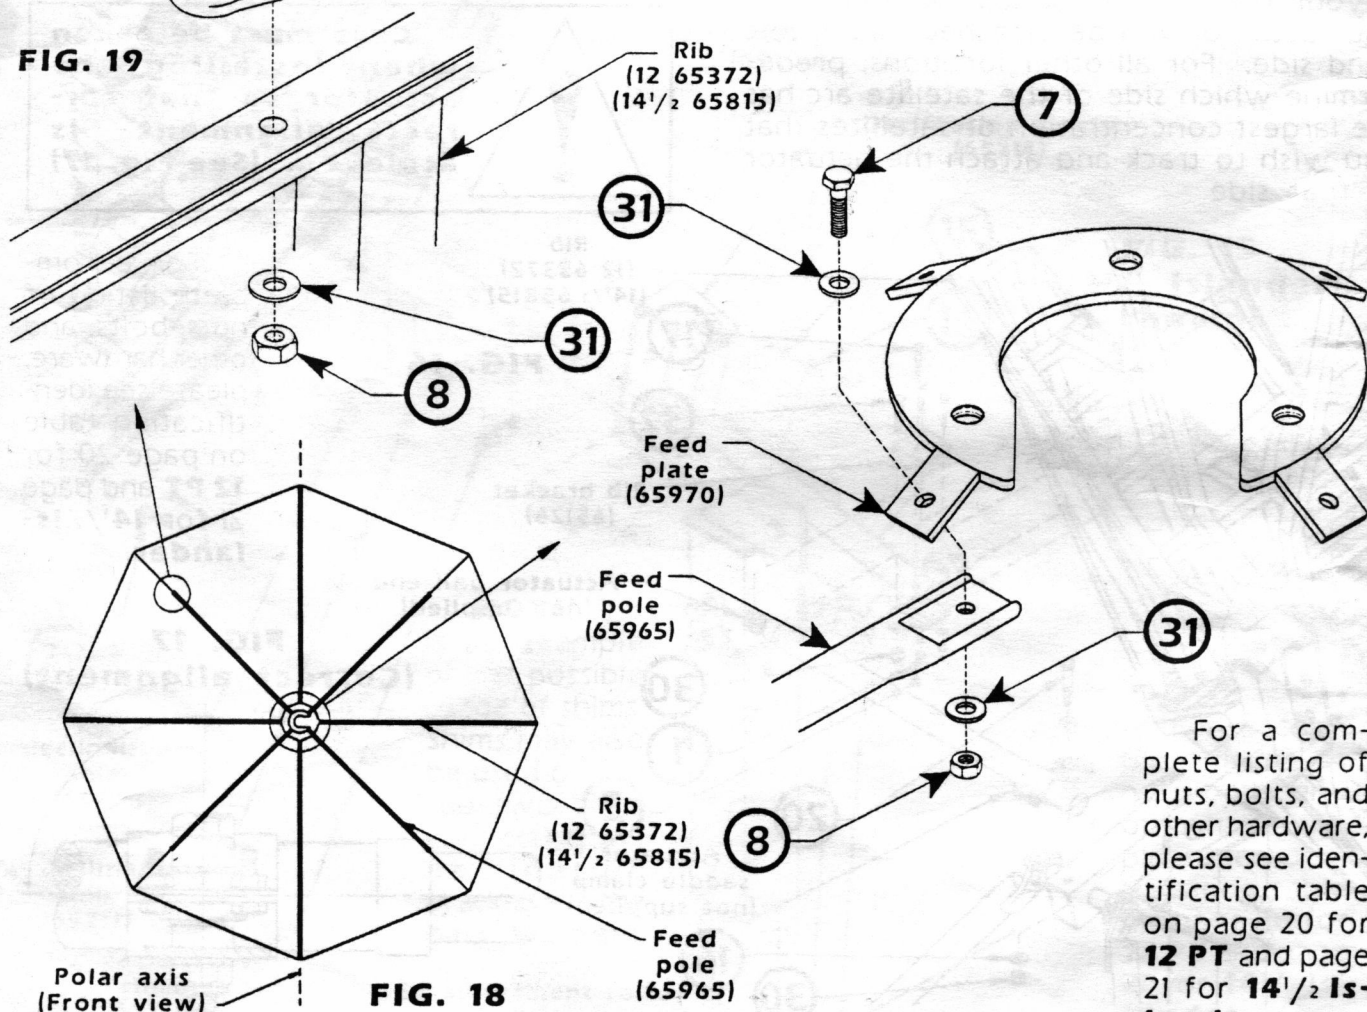

FIG. 20
3. Attach the feed plate to the feed poles using four $\frac{1}{4}$ " x 1" bolts, eight $\frac{1}{4}$ " flat washers, and four $\frac{1}{4}$ " nuts. (See Fig. 20)